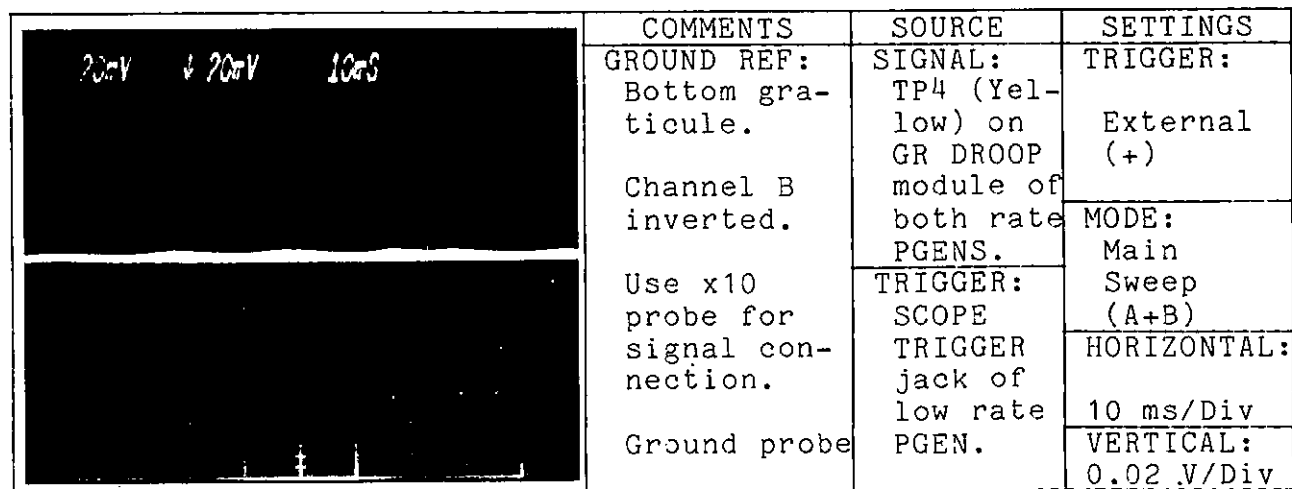

Figure 2.30. A+B Waveform
h. With the oscilloscope trigger coming from the same PGEN, adjust R3 for as straight as possible line on the left side of the display. Trigger the oscilloscope from an opposite rate PGEN and adjust R1 for as straight a line as possible on the left side of the display. Adjust R11 for a straight line across the entire display. Repeat these steps until the two waveforms add to a straight line similar to Figure 2.30. Observe Channel B alone and not inverted, to ensure that it is set properly.